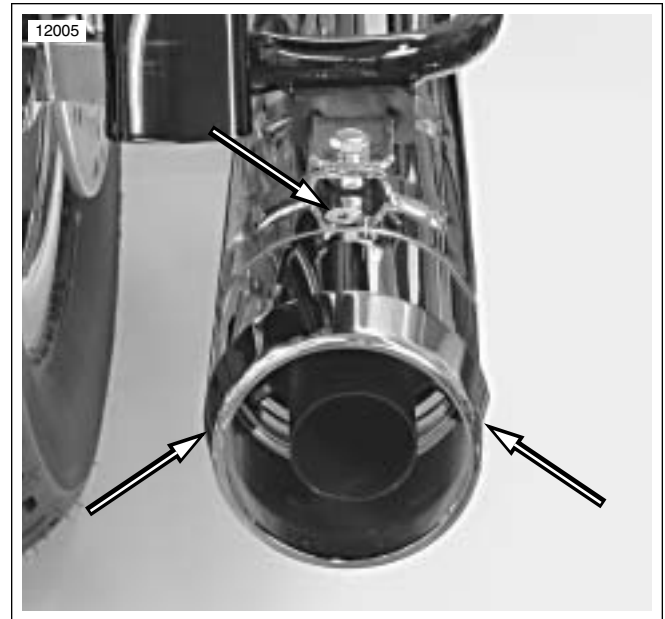

Figure 2-56. Muffler End Cap Fastener Locations
2. See Figure 2-56. Loosen and remove three fasteners holding muffler end cap in place. Remove end cap.